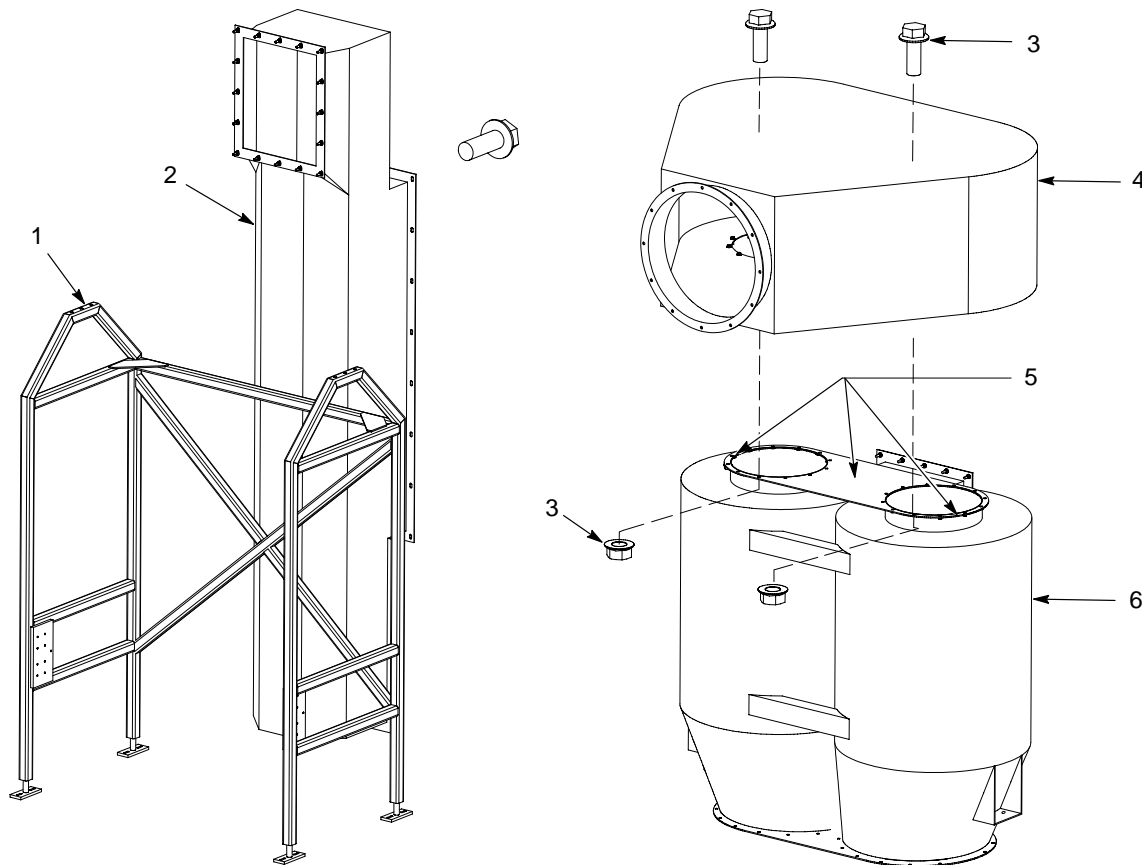

Figure 11 Cyclone Stand Positioning and Cyclone/Banjo Assembly (Typical)
1. See Figure 11. Position the rear legs of the cyclone stand (1) approximately 2 feet in front of the extraction duct (2).
2. Apply a bead of RTV sealant (5) around the top flange of the upper half of the cyclone (6).
3. Install the banjo (4) on the upper half of the cyclone and secure it with $\frac{3}{8}$ -16 x 1 in. bolts and nuts. Tighten the bolts securely.